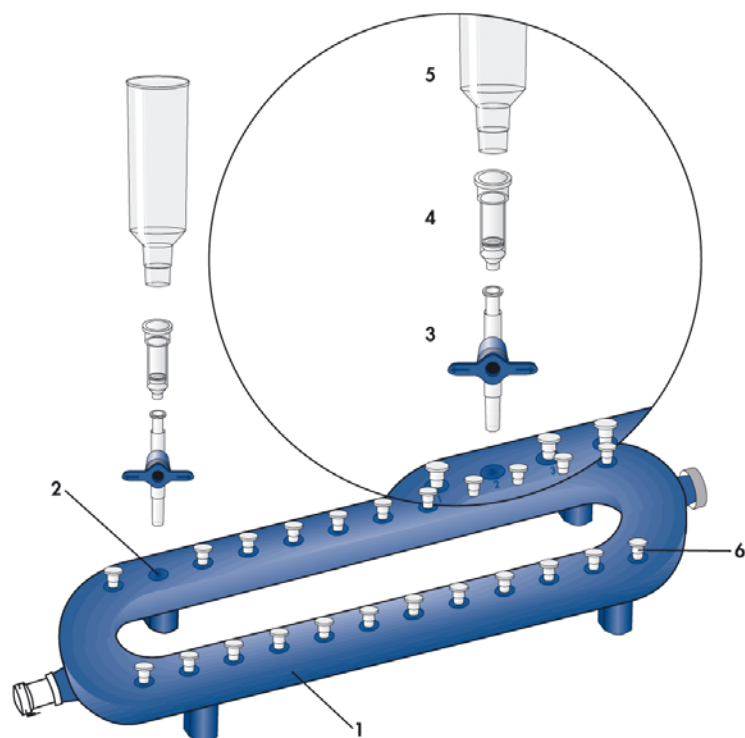

Figure 1. Setting up the QIAvac 24 Plus with QIAGEN Plasmid *Plus* spin columns using VacValves.
- Insert up to 24 QIAGEN Plasmid *Plus* Midi or Maxi spin columns or up to 12 QIAGEN Plasmid *Plus* Mega and Giga spin columns into the luer extensions of the QIAvac 24 Plus (use every second luer slot, below the hole in the QIAvac Holder). Attach a Tube Extender to each column. Close unused positions of the manifold with luer caps and connect the QIAvac 24 Plus to a vacuum source. See Figure 1, page 35.